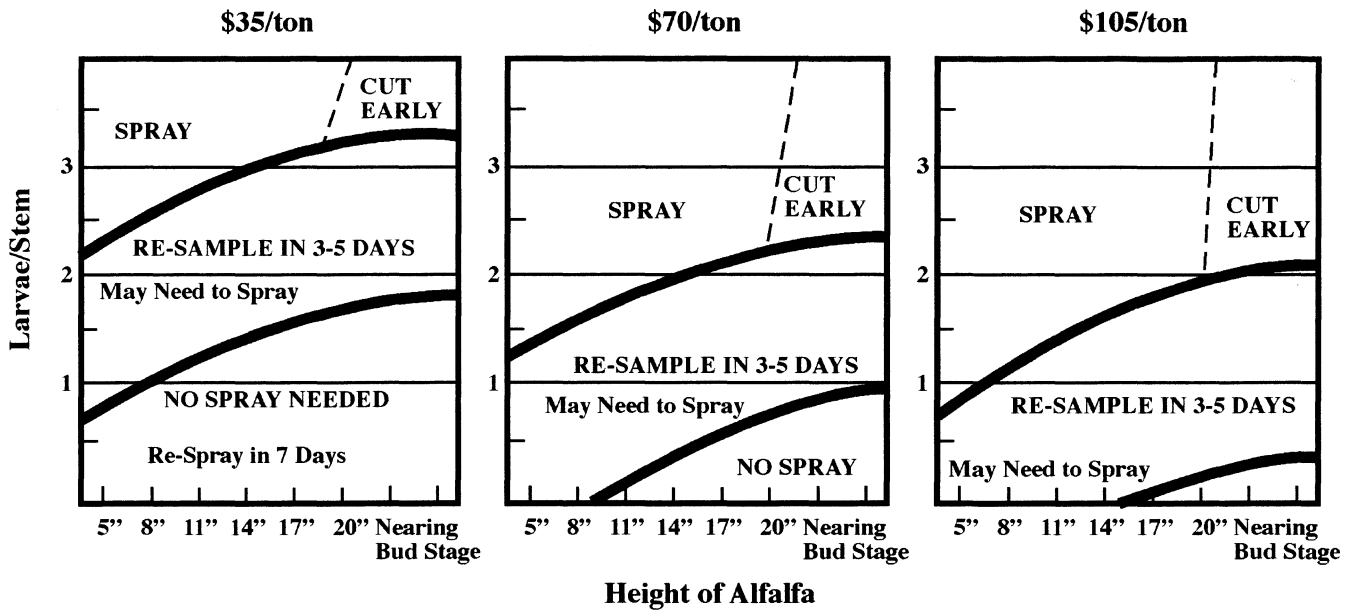

Figure 1. Treatment thresholds for the alfalfa weevil at three alfalfa price levels.
*Figure 1* represents the estimated soil moisture available in the top five feet of the profile as of April 2. This figure was developed by using the accumulated precipitation at each reporting weather station. The accumulated totals were multiplied by an efficiency factor of 0.65 to provide a rough estimate of how much available moisture may be in the profile.
*Figure 2* represents the difference between the available soil moisture illustrated in *Figure 1* and an average of climatological baseline normals from 1971-2000. In simple terms, *Figure 2* is the difference between *Figure 1* and the 1971-2000 precipitation normals multiplied by a factor of 0.65. The